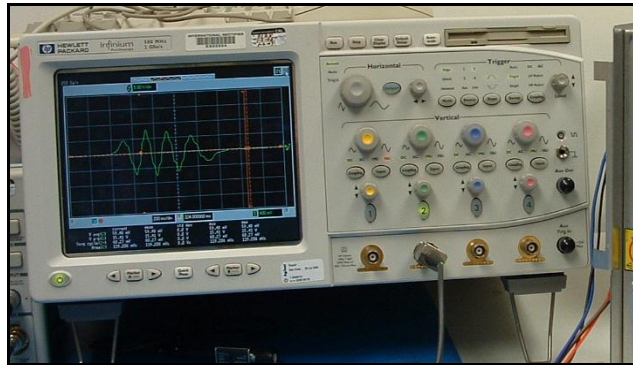

Figure 3—Counting the Number of Poles. This Motor has 8 Poles.
3. Motor Poles—Connect two phases of the motor to an oscilloscope. Turn the motor through one revolution and record the back-emf waveform on the 'scope. Count the total number of positive and negative peaks, which should be an even number. Figure 3 shows an 8-pole motor. (It can be difficult to get exactly one revolution without extra peaks. One trick is to turn the motor through several revolutions and then divide by the number of revolutions.)